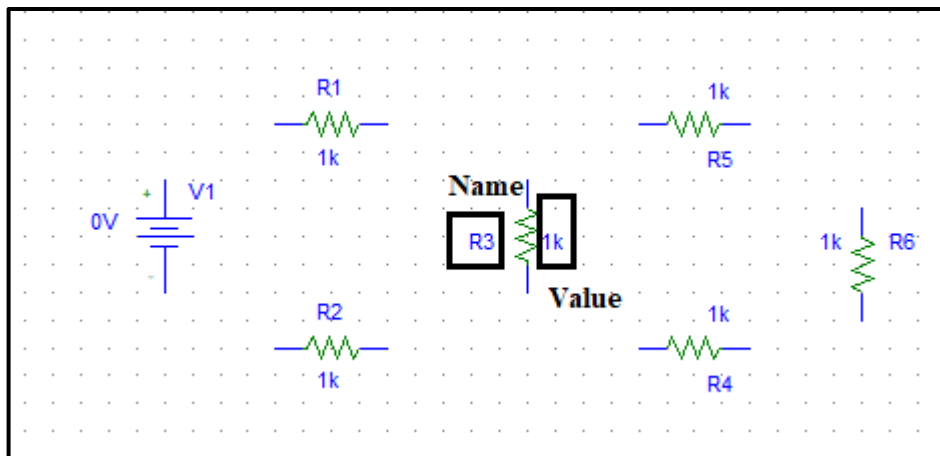

Figure.6
- Note that when you place parts, each circuit part in PSPICE has a name and a value as shown in figure.6 Always make sure to place circuit parts in PSPICE in a similar way to the circuit given in manual. For example, check the the way the parts are placed in figure.6.